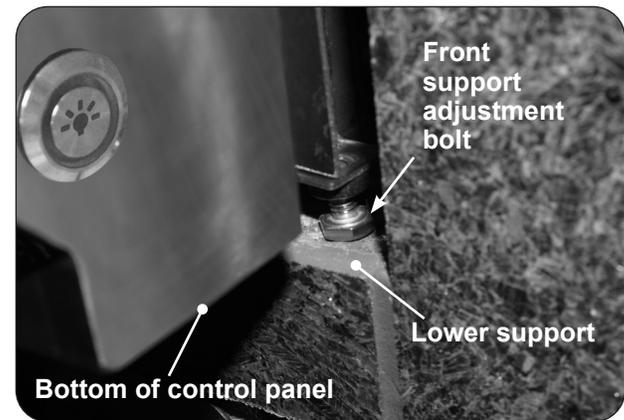

Fig. 22-2 Front support adjustment bolts
4. Rotate the front support adjustment bolts (up or down) until the grill hanger rests flush on the countertop, AND, the adjustment bolts are touching the supporting structure found at the bottom of the cutout (lower support). Use an 11 mm open-end wrench as needed. See Fig. 22-2.